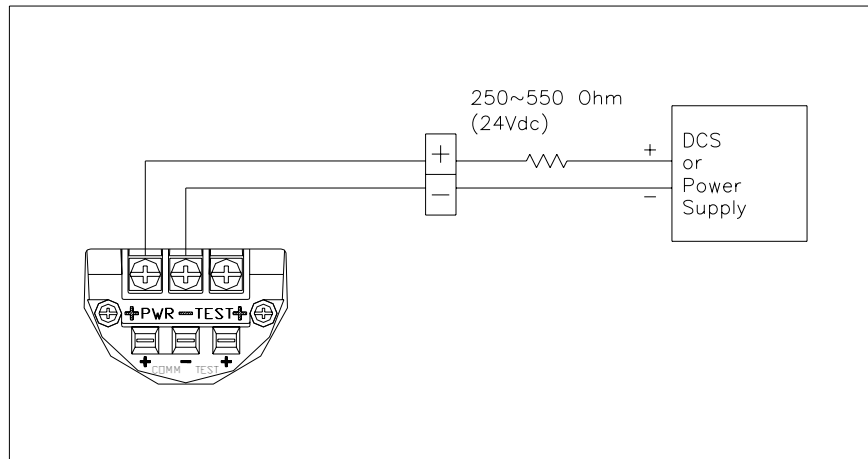

Figure 4-2 Connection with Terminal Board of Transmitter
- (7) You have to connect 250~600 Ω Loop Resistor in Current Loop(between Power Supply and Transmitter) for HART Communication HART. Following Figure 4-2 about connection of Current Loop.